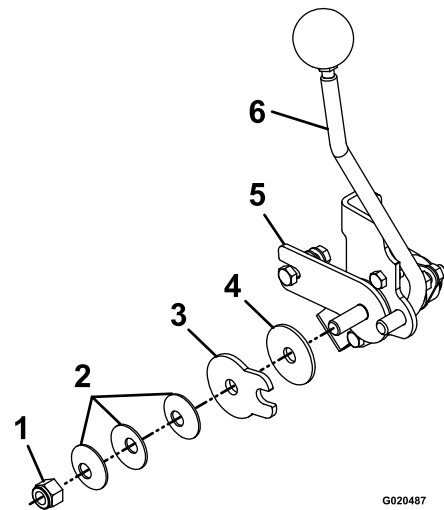

Figure 65
3. Adjust the pivot nut, which is located at the end of the motion-control shaft in front of the right console (Figure 65).